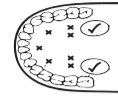

Figure 2
- a. **Oral Use:** Place thermometer under tongue as indicated by "∩" position shown in Figure 2. Close your mouth and breathe evenly through the nose to prevent the measurement from being influenced by inhaled/exhaled air.